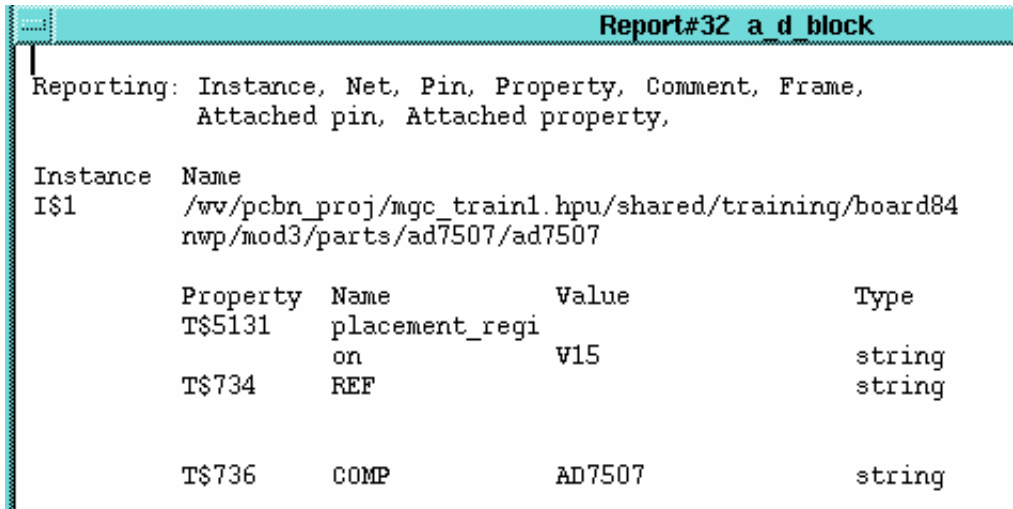

Figure 2-49. Report Showing Property Values
- 4. Scan the displayed report to find the property value. Figure 2-49 shows an example of property values in a report.